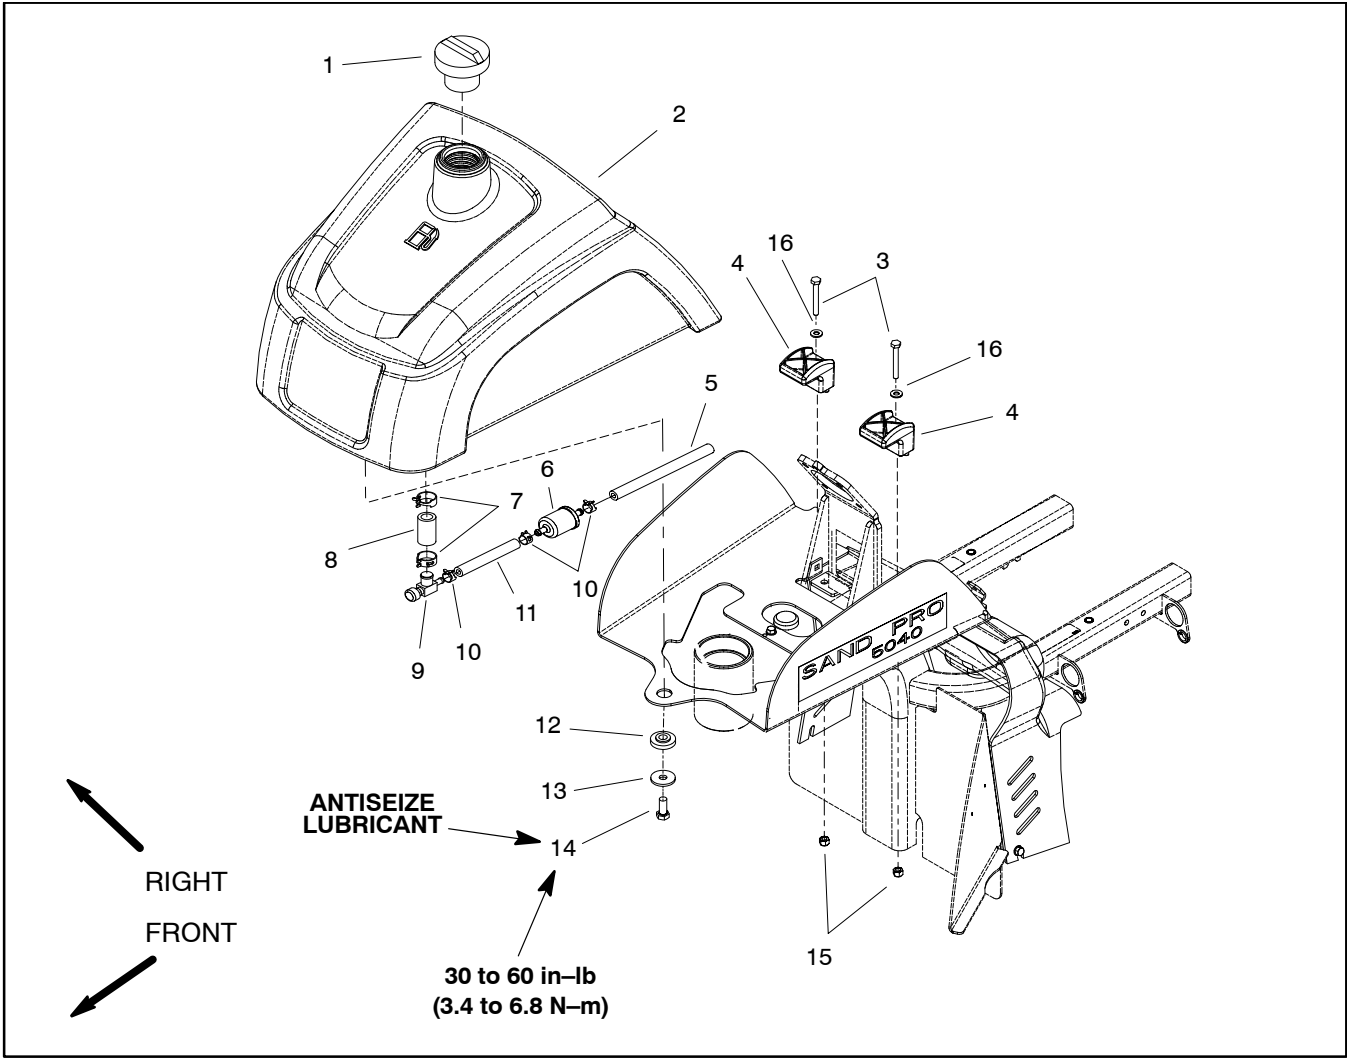

Figure 6
Fuel Tank Removal (Fig. 6)
5. Remove fuel tank from machine using Figure 6 as a guide.
Fuel Tank Installation (Fig. 6)
2. Install fuel tank to frame using Figure 6 as a guide. Apply antiseize lubricant to cap screw (item 14) that secures front of fuel tank to machine. Install and torque cap screw from 30 to 60 in-lb (3.4 to 6.8 N-m).